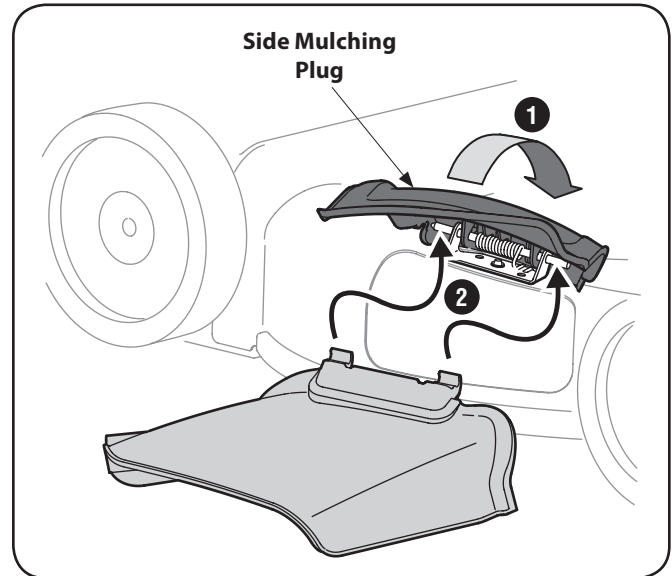

Figure 3-9
- 1. On the side of the mower, lift the side mulching plug as shown in Figure 3-9.